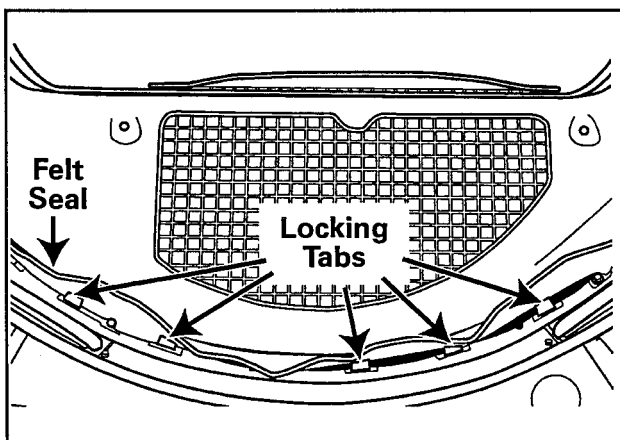

Figure 6-7
3. Remove the old felt seal by prying the locking tabs up with a flat blade screwdriver. (See Figure 6-7)